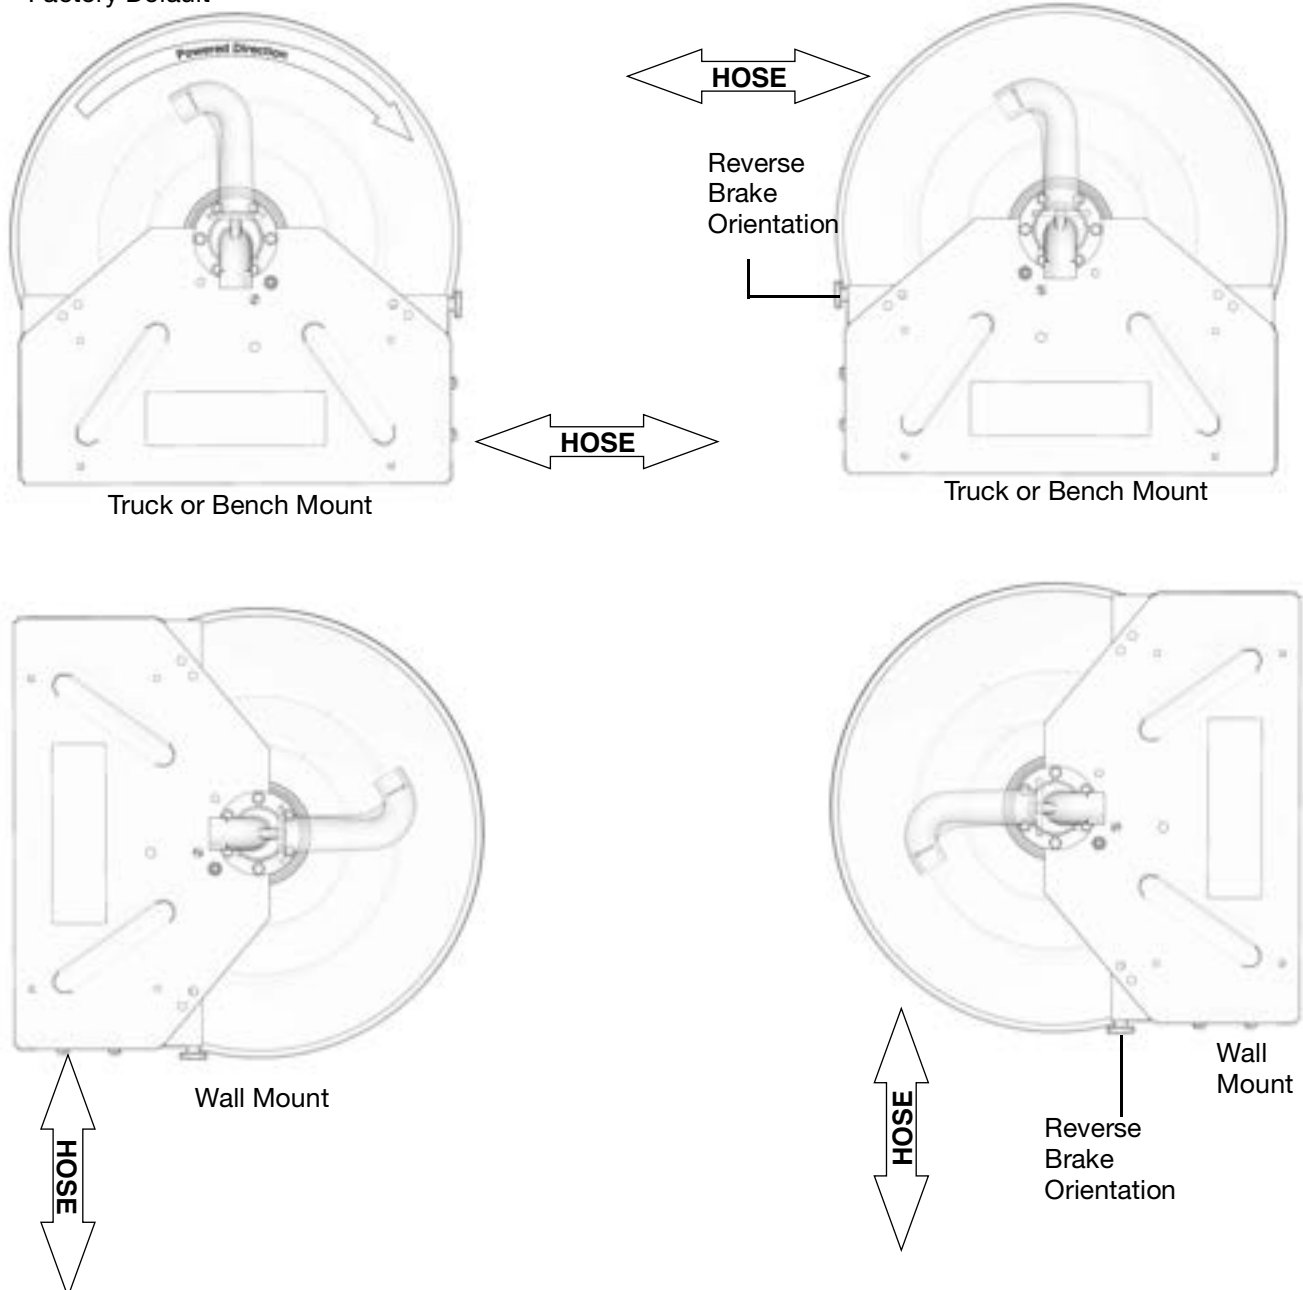
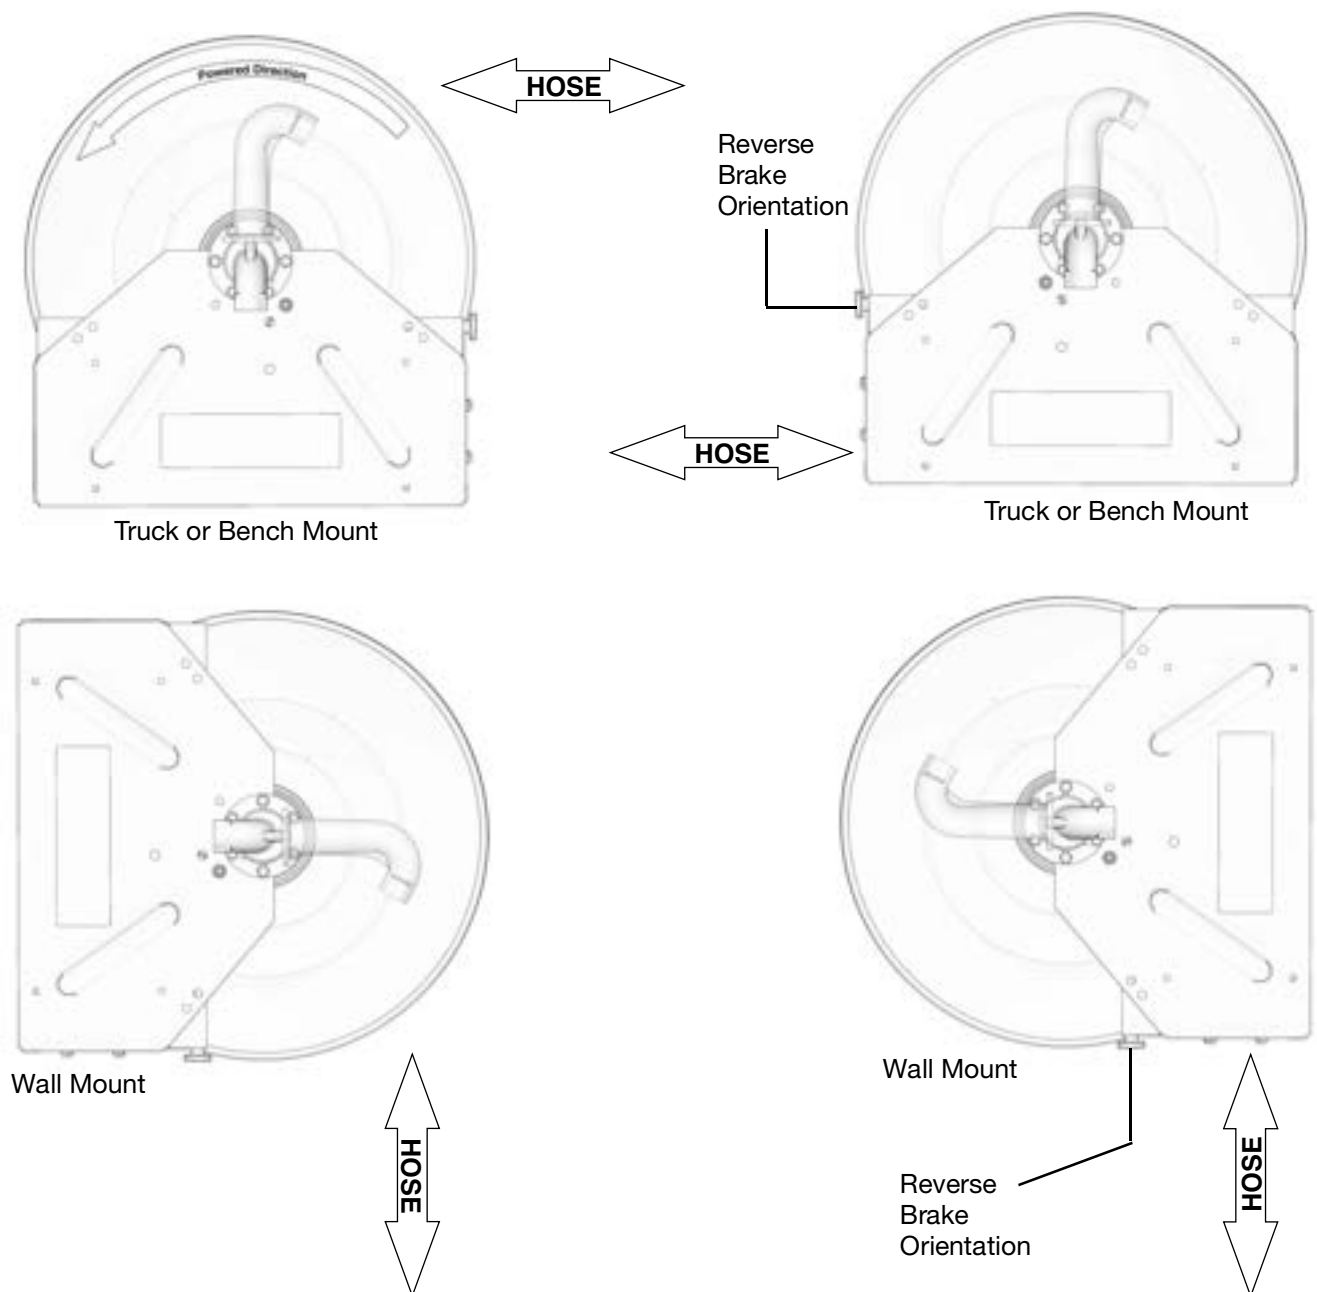

FIG. 22: Inlet Side Shown
FIG. 23: Inlet Side Shown
The outlet (17) orientation and motor (26) rotation can be altered as shown in FIG. 22-FIG. 23.
In the configurations shown in FIG. 22 the motor turns counter-clockwise under power when viewed from the motor side of the reel. All four configurations shown in FIG. 22 have the factory standard motor rotation and outlet orientation.
In the configurations shown in FIG. 23 the motor turns clockwise under power when viewed from the motor side of the reel. All four configurations shown in FIG. 23 require motor (26) rotation reversal and outlet (17) reversal.
3. Determine correct orientation for outlet (17) for the installation location. Refer to Outlet Orientation and Motor Rotation, FIG. 22, page 29 and FIG. 23, page 30.
5. Attach end of the hose to the outlet (17) using two (2) wrenches on the flats, working in opposite